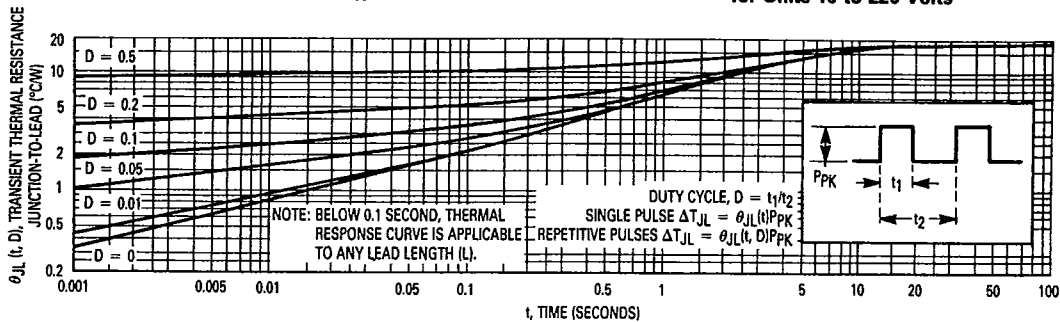
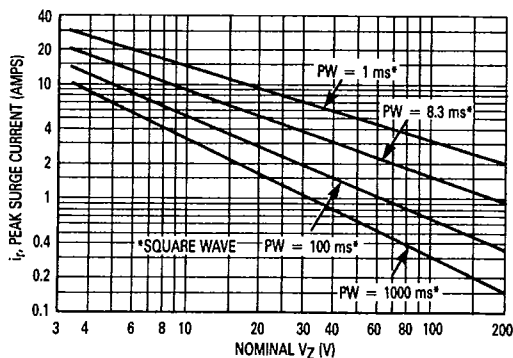
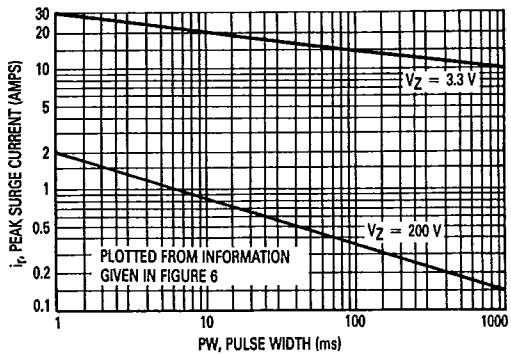

Figure 4. Typical Thermal Response L, Lead Length = 3.8 Inch
Figure 6. Maximum Non-Repetitive Surge Current versus Nominal Zener Voltage (See Note 3)
Figure 7. Peak Surge Current versus Pulse Width (See Note 3)
- (1) TOLERANCE AND VOLTAGE DESIGNATION — The JEDEC type numbers shown indicate a tolerance of ±10% with guaranteed limits on only V_Z, I_R, I_S, and V_F as shown in the electrical characteristics table. Units with guaranteed limits on all seven parameters are indicated by suffix "A" for ±10% tolerance and suffix "B" for ±5%, C for ±2% and D for ±1%.
- (2) ZENER VOLTAGE (V_Z) AND IMPEDANCE (Z_{ZT} & Z_{ZK}) — Test conditions for Zener voltage and impedance are as follows: I_Z is applied 40 ± 10 ms prior to reading. Mounting contacts are located 3/8" to 1/2" from the inside edge of mounting clips to the body of the diode. (T_A = 25°C ± 2°C).
- (3) SURGE CURRENT (I_S) — Surge current is specified as the maximum allowable peak, non-recurrent square-wave current with a pulse width, PW, of 8.3 ms. The data given in Figure 6 may be used to find the maximum surge current for a square wave of any pulse width between 1 ms and 1000 ms by plotting the applicable points on logarithmic paper. Examples of this, using the 33 V and 200 V zeners, are shown in Figure 7. Mounting contact located as specified in Note 3. (T_A = 25°C ± 2°C).
- (4) VOLTAGE REGULATION (ΔV_Z) — Test conditions for voltage regulation are as follows: V_Z measurements are made at 10% and then at 50% of the I_Z max value listed in the electrical characteristics table. The test currents are the same for the 5% and 10% tolerance devices. The test current time duration for each V_Z measurement is 40 ± 10 ms. (T_A = 25°C ± 2°C). Mounting contact located as specified in Note 2.
- (5) MAXIMUM REGULATOR CURRENT (I_{ZM}) — The maximum current shown is based on the maximum voltage of a 5% type unit, therefore, it applies only to the B-suffix device. The actual I_{ZM} for any device may not exceed the value of 5 watts divided by the actual V_Z of the device. T_L = 75°C at 33° maximum from the device body.
Data of Figure 4 should not be used to compute surge capability. Surge limitations are given in Figure 6. They are lower than would be expected by considering only junction temperature, as current crowding effects cause
temperatures to be extremely high in small spots resulting in device degradation should the limits of Figure 6 be exceeded.